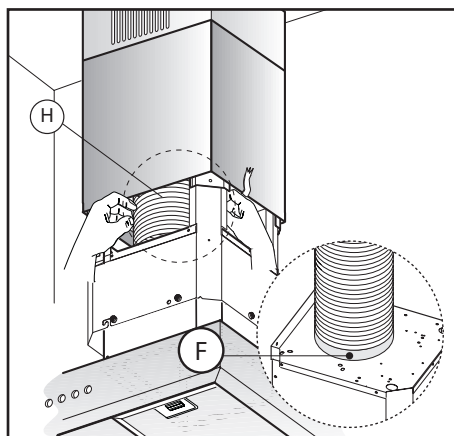

Fig.10
- Fix the air evacuation pipe **H** (not supplied) onto the connection flange **F** **(Fig.10)**.